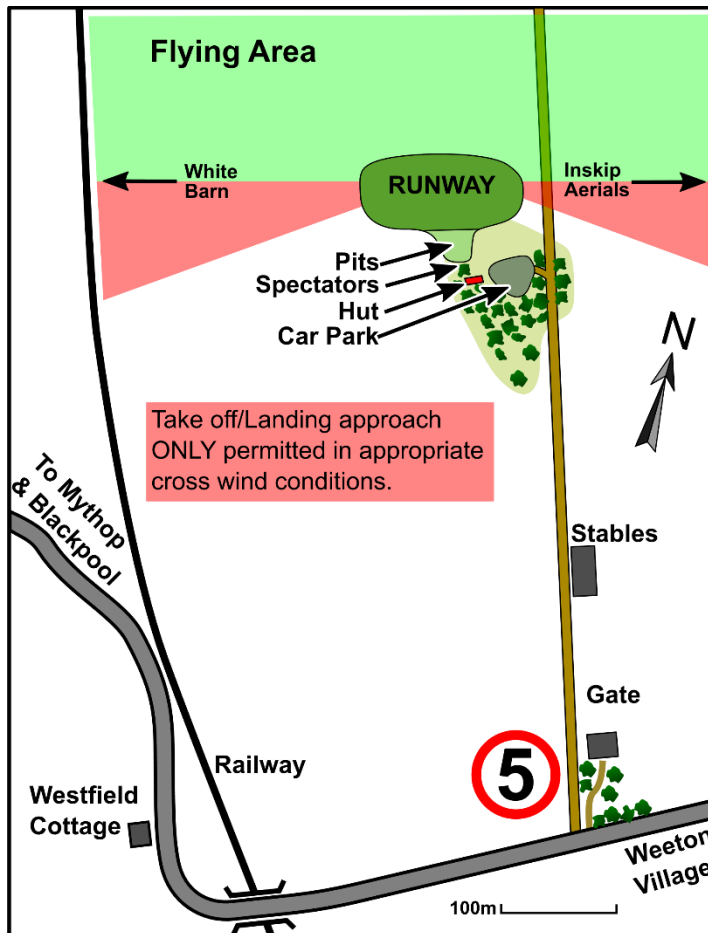

Figure 1 - Layout of Flying Field
- 2.5 All flying is to be done in the designated areas only, See Figure 1 below :-
- 2.6 Irrespective of wind direction all members must only fly in the designated flying area North of a line from the Large White Barn to the West and the Radio Masts at Inskip to the East (as shown on Figure 1 above). In the event of a crosswind, it is permissible to take off and land at an angle of not more than 30 degrees to this line (as shown on the map), provided your intentions are made known to other pilots. However: